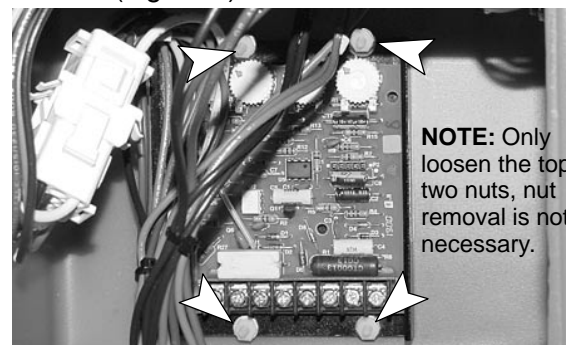

Fig. 4
5. Remove the old control board from the control console, 5/16" nut driver required. Four nylon nuts secure the control board to the console (Figure 4).